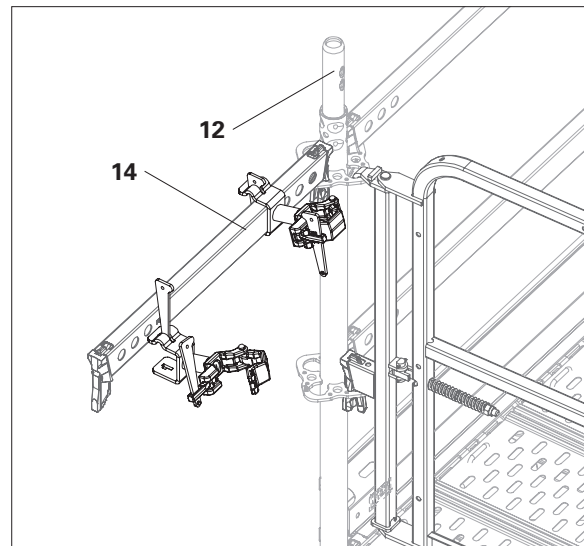

Fig. A9.06a
5. Close the ladder connectors and tighten the screws or hammer the wedges in tight. (Fig. A9.06a + A9.06b)